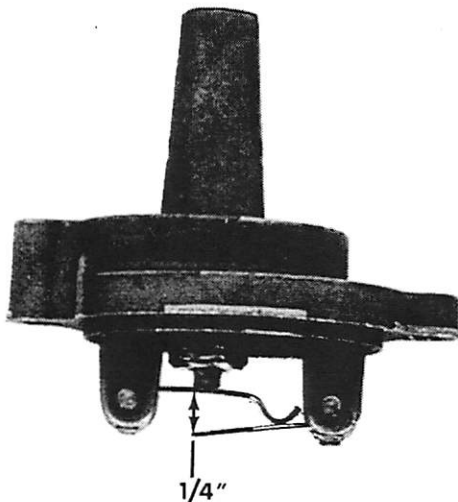

Figure 3. Clearance between Levers
7. Hold float bowl cover upright. (Figure 3) Distance between levers is  $1/4$ ". Bend tab on secondary lever as required.